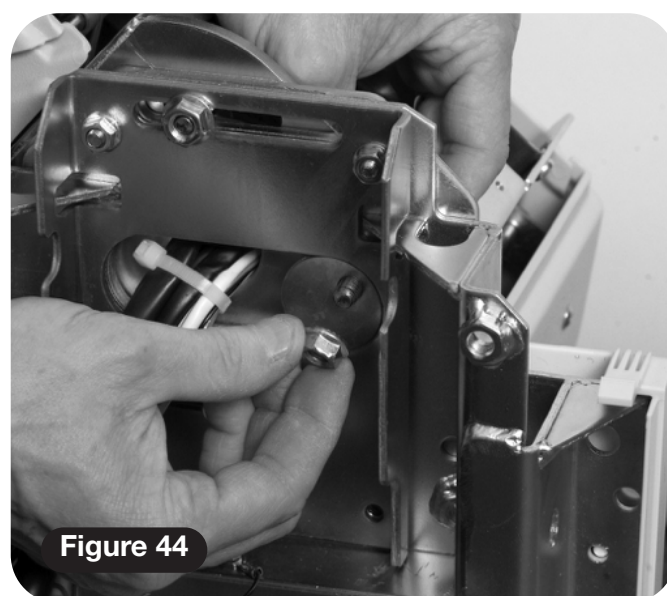

Figure 44
- 4 Fit the safety bolt and washer (**Figure 44**).